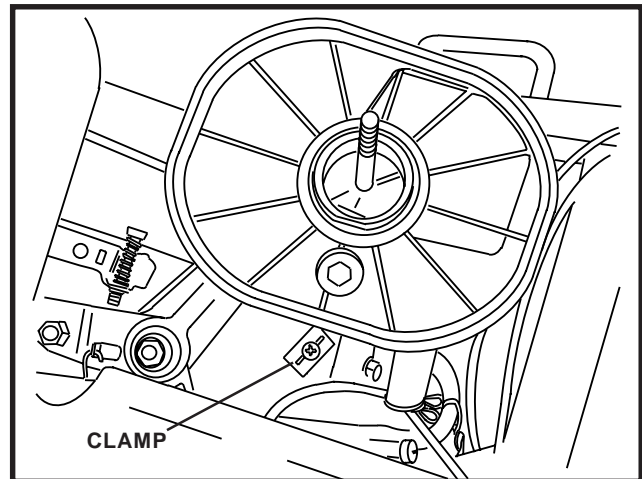

FIGURE 5
9. Remove air cleaner and double wire clamp from engine. Figure 5.